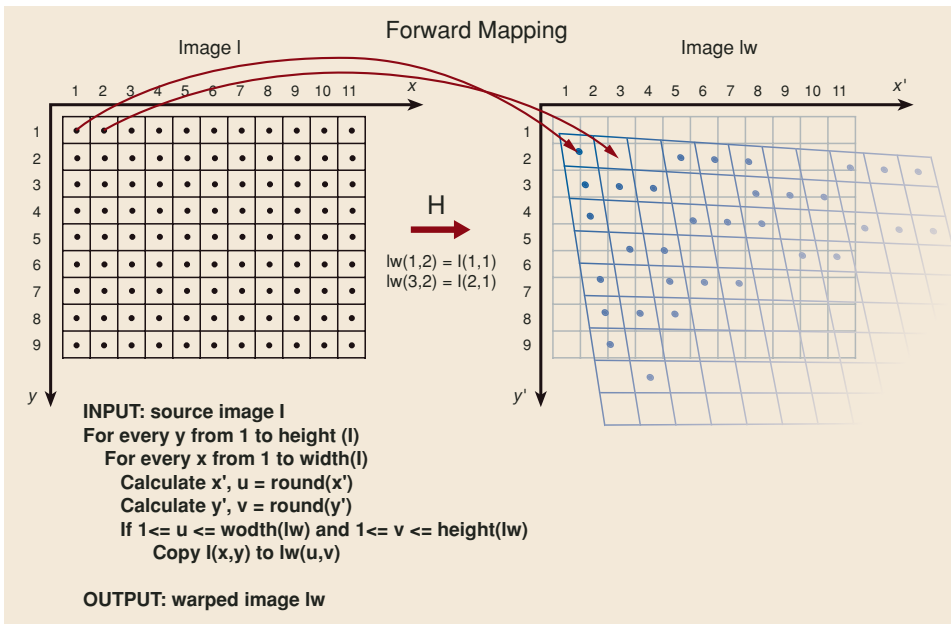

Figure 2 – Forward mapping with a scaling factor greater than one
Using forward mapping, the source image is scanned line by line and the pixels are copied to the resulting image, in the position given by the result of the linear system shown in equation (2). This technique is subject to several problems, the most important being the presence of holes in the final image in the case of significant modification of the image (such as rotation or a scaling by a factor greater than 1) (Figure 2).